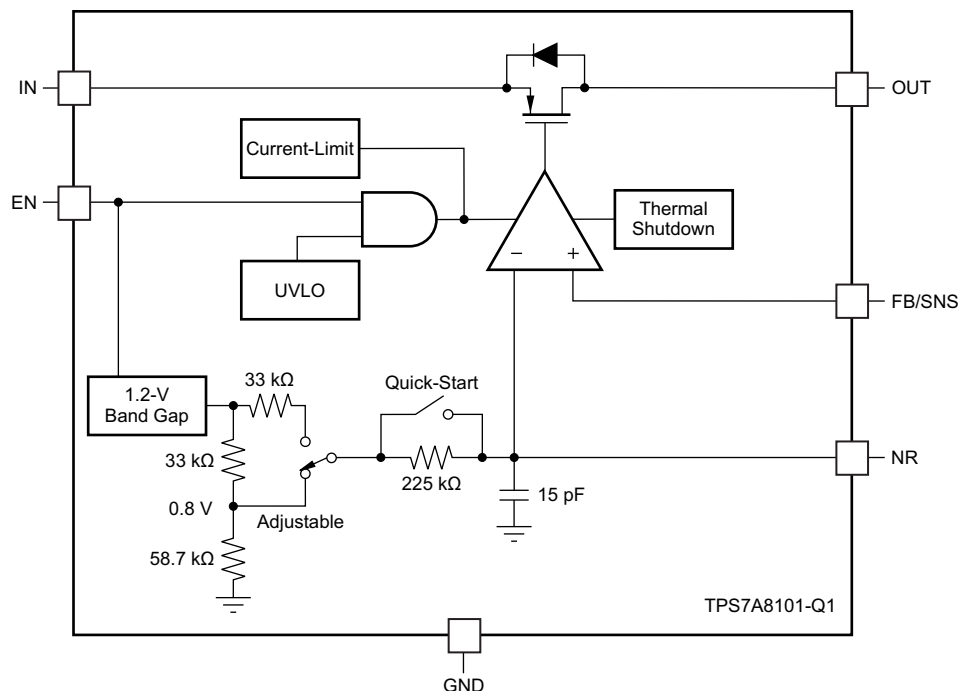

Figure 30. Functional Block Diagram
Through a lower resistance, the bandgap reference can quickly charge the noise-reduction capacitor ( $C_{(NR)}$ ). The TPS7A8101-Q1 device has a *quick-start* circuit to quickly charge  $C_{(NR)}$ , if present; see Figure 30. At startup, this quick-start switch is closed, with only 33 k $\Omega$  of resistance between the bandgap reference and the NR pin. The quick-start switch opens approximately 100 ms after any device-enabling event, and the resistance between the bandgap reference and the NR pin becomes higher in value (approximately 250 k $\Omega$ ) to form a very-good low-pass (RC) filter. This low-pass filter reduces the noise present on the reference voltage; therefore, reducing the noise on the output.